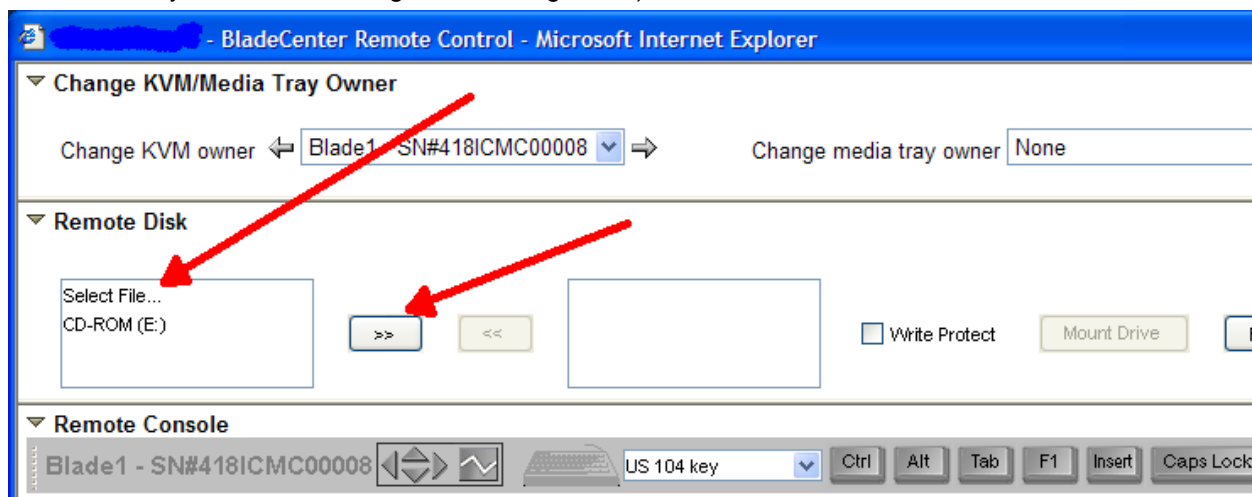
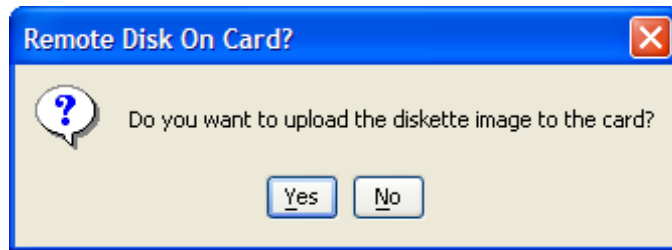

Figure 26 Remote Media via the Remote Console
Figure 27 Loading the Remote Diskette
- b. Load the kickstart floppy image to the RSA card. This can be done either from a physical floppy disk by selecting "Removable Drive (A:)" or by selecting "Select File..." and specifying a diskette image file. Select one from the left list box, then click on the ">>". (Figure 26) After clicking the ">>", you'll see the dialog shown in Figure 27)